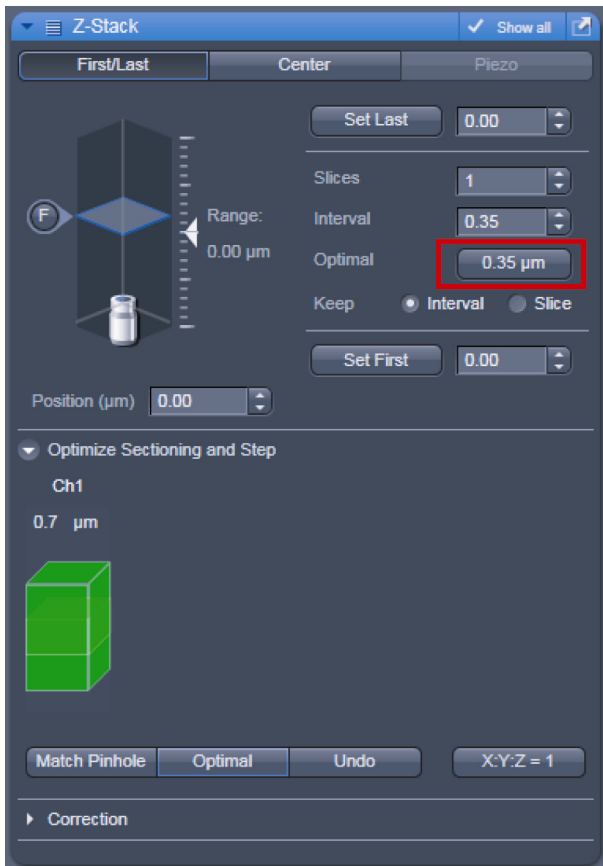

Fig. 156 Z-Stack tool
- The **Optimal Interval** box of the **Optimize Sectioning and Step** submenu of the **Z-Stack** tool in **Show all** mode within the **Multidimensional Acquisition** tool group simultaneously displays the depth resolution corresponding to the pinhole diameter (see Fig. 156).